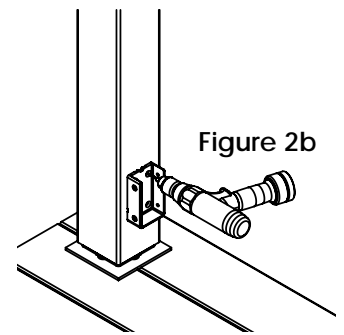

Figure 2b
Make a pencil mark at the bottom of the lower rail on the post. Measure down 3/16" below previous mark, then square and center the bottom of the mounting bracket. Mark screw holes in the four corners of the bracket and then pre-drill four 5/32" holes. Screw the bracket base into place with four (4) #12 x 1" S.S. flat head screws (see Figure 2b). Repeat the opposite post.